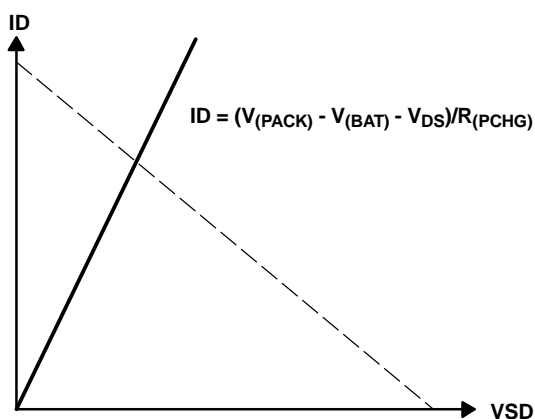

Figure 14. PCHG-FET ID—VDS Characteristic
- A load curve of the PCHG-FET is shown in Figure 14. When the drain-source voltage ( $V_{DS}$ ) is high enough, the PCHG-FET operates in the linear region and has low resistance. By approximating  $V_{DS}$  as 0 V, the precharge current,  $I_{(PCHG)}$  is expressed as below.